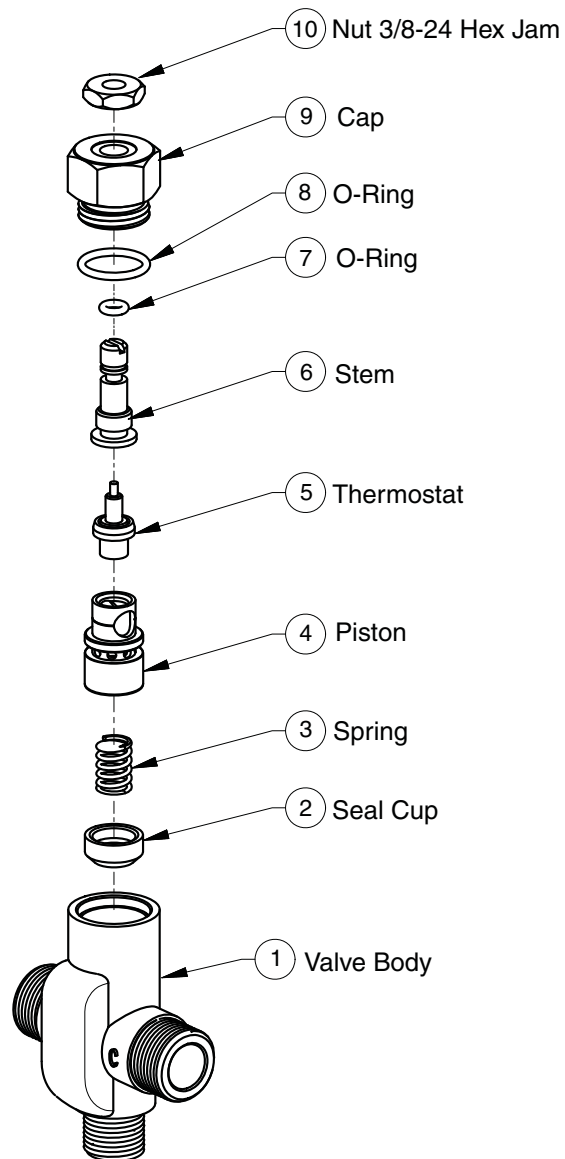

Figure 11
1. Remove the valve's cap and thermostat (see Figure 11 on Page 30).